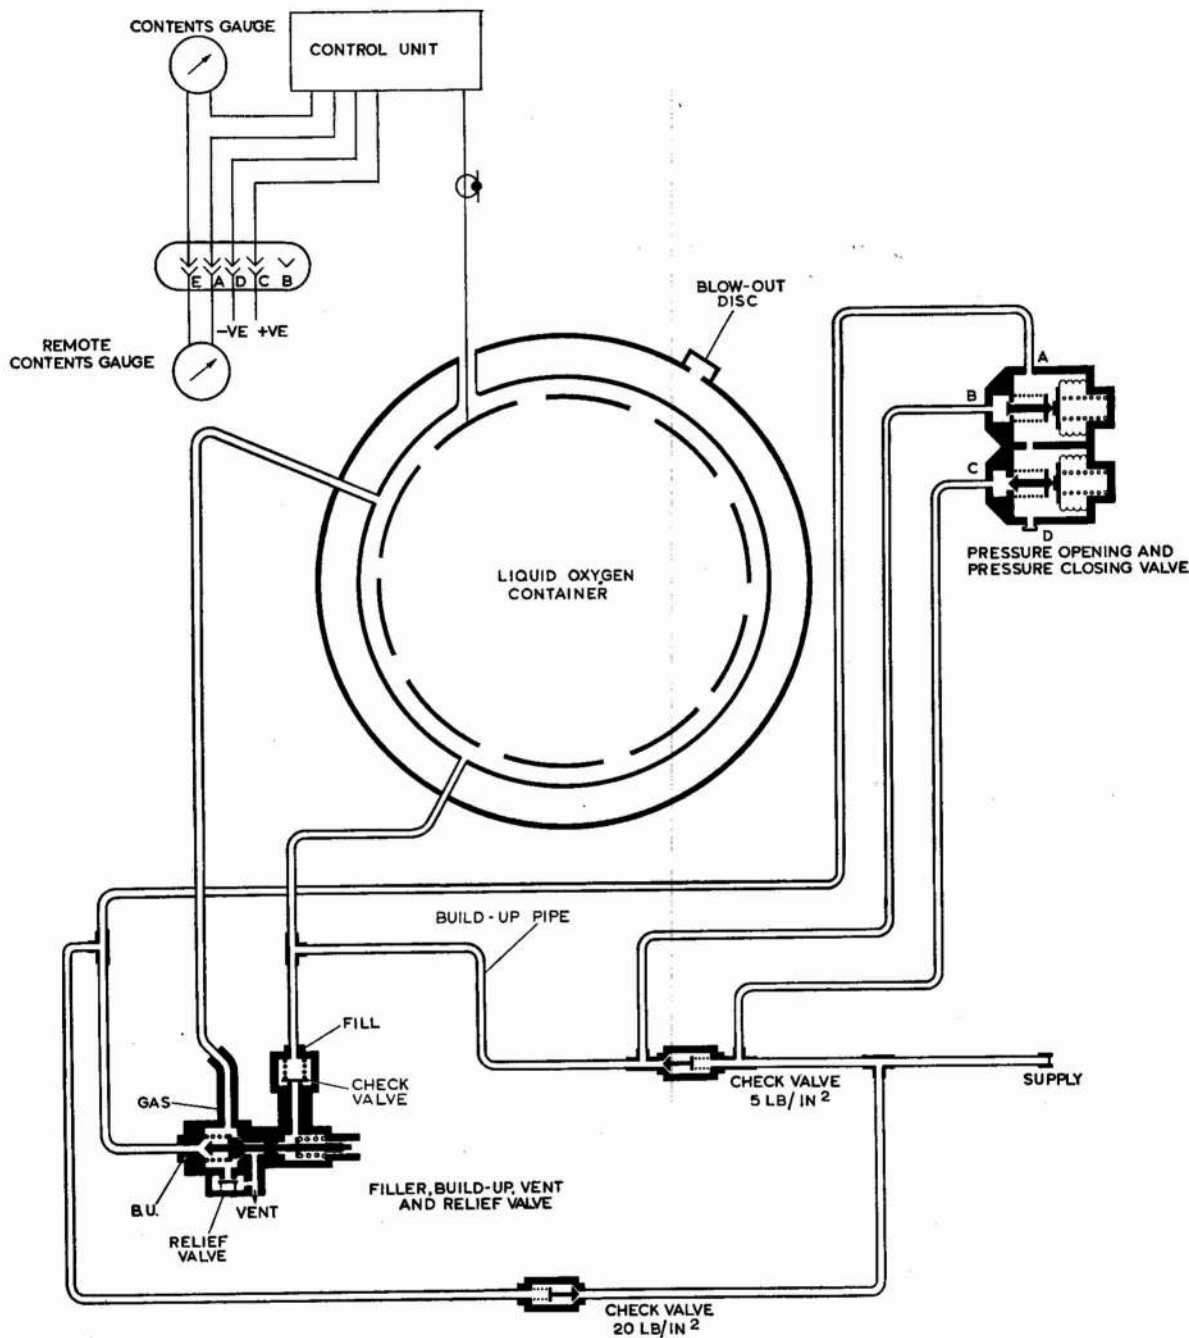

Fig. 4. Schematic diagram
11. The operation of the package consists of filling, build-up (converting the liquid oxygen to gaseous oxygen) and gauging the contents of the container. The description which follows should be read in conjunction with the schematic diagram (fig. 4).